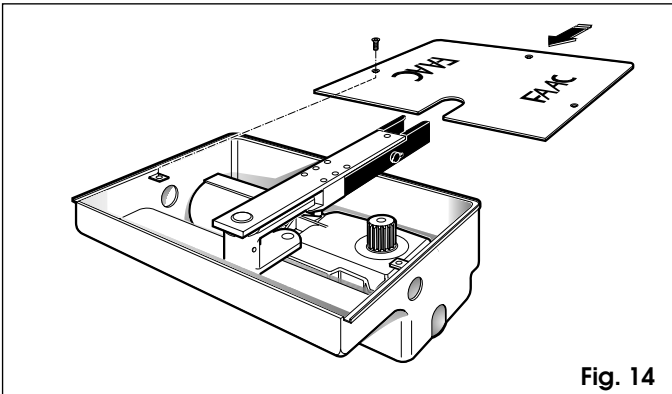

Fig. 14
- Fasten the box cover by means of the screws supplied (fig. 14).